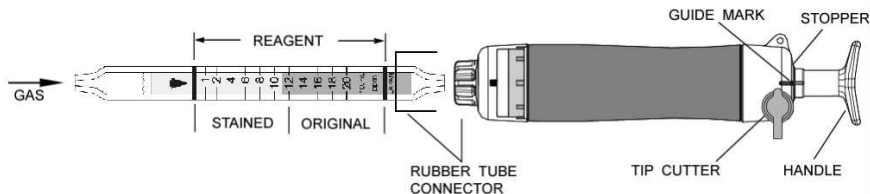

Fig.1
- ② Insert the detector tube into the aspirating pump securely as shown in Fig.1 (Arrow mark shall point to the pump.)
- ③ Align the guide marks on the shaft and stopper of the aspirating pump.
- ④ Pull the pump handle at a full stroke until it locks and wait for 1 minute or until the completion of sampling is confirmed with the flow indicator of the pump (See descriptions about the flow indicator in the instruction manual of the pump).
- ⑤ On completion of sampling, read the scale at the maximum point of the stained layer.